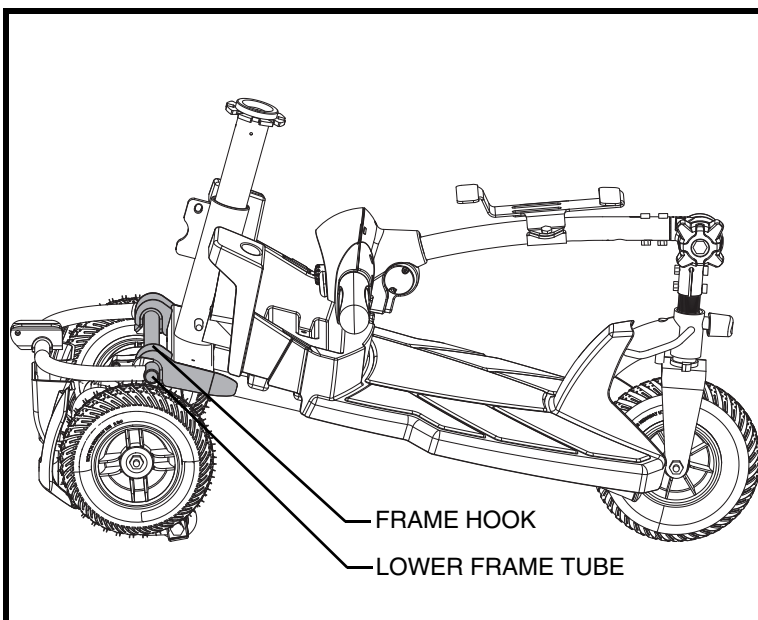

Figure 26. Frame Separation
4. Slowly separate the two sections of the Travel Scooter. **See figure 26.**
NOTE: Before attempting assembly, tilt the rear half of the Travel Scooter slightly back on the anti-tip wheels as show in figure 26.
1. Use the seat post to lift the front section as you align the frame hooks of the front section with the lower frame tube of the rear section. **See figure 26.**